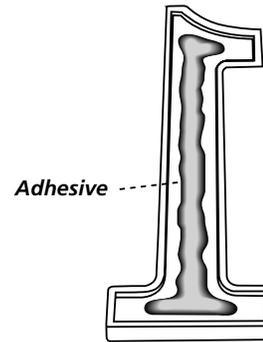

FIGURE 2
3. After you are satisfied with the alignment and spacing of the numbers, lift the numbers, one at a time, and apply a bead of adhesive in the middle of the number channel (see Figure 2). Note, if you are in a hurry, see next paragraph. Apply just enough adhesive so it will make contact with plaque face once it is set in place. If the entire channel is filled, the adhesive may ooze out the sides of the number. Carefully set the number back on the plaque face with the adhesive side down. Repeat for each digit.